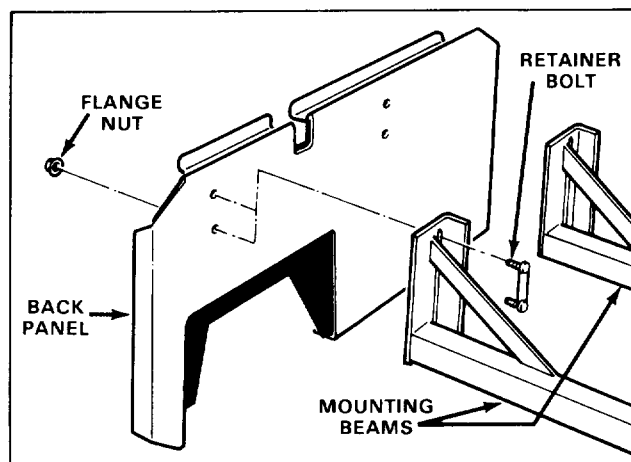

Figure 2
1. Secure mounting beams to back panel with retainer bolts and 3/8-16 flange nuts. Top of beam brackets should be flush with top of back panels (Fig. 2).